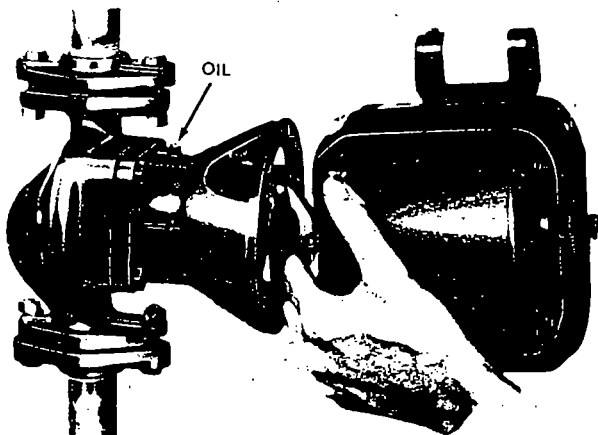
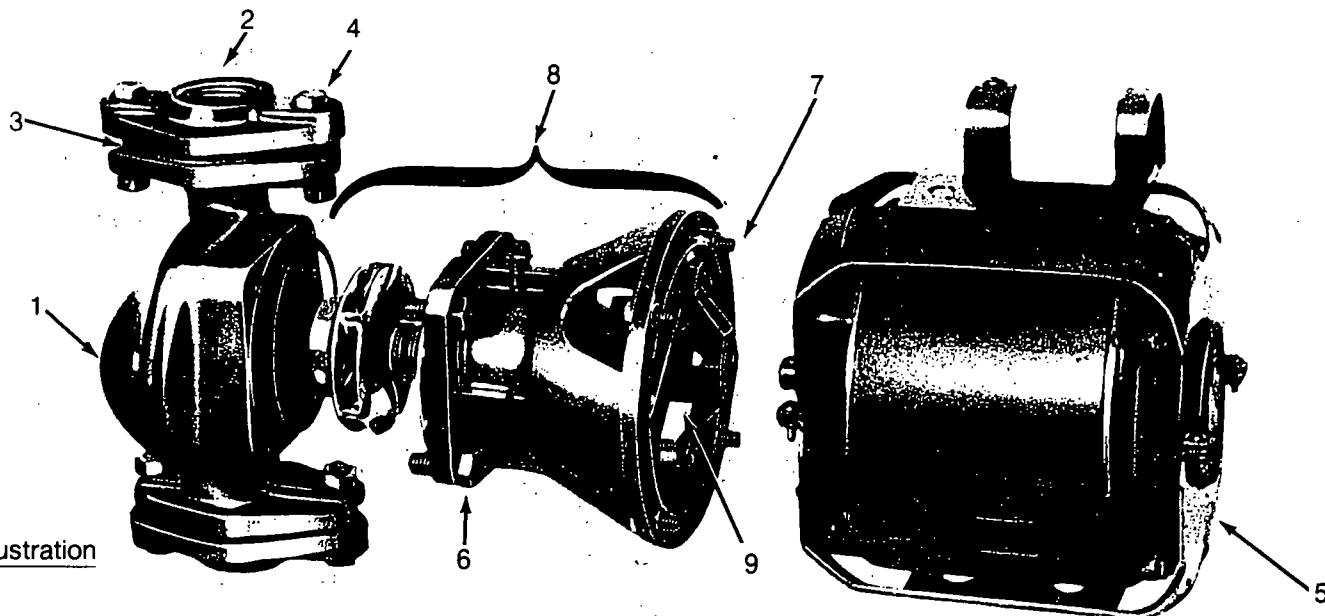

Figure 4 — Coupler Replacement & Lubricating
Figure 5 — Replacement Parts Illustration
1. Before operation, lubricate pump bearing (located on impeller assembly, Figure 5, Ref. No. 8) with oil tube provided. Slowly add oil (approximately 1/2 ounce on all models except 2P436, 3P612, 3P701 and 3P702. To these add 3/4 ounces, see Maintenance). Stop if cup fills before specified amount is added (see Figure 4).
A start of each heating season and/or every 6 months, lubricate oil cup located on impeller assembly (Figure 5, Ref. No. 8) with nondetergent (regular) SAE-30 motor oil as described below:
impeller assembly (Figure 5, Ref. No. 8). Stop if cup fills before specified amount is added (see Figure 4).
4. Remove bearing/impeller assembly from pump body, with coupler and impeller attached, by removing body capscrews. See Figure 5 or 6.
- Add complete contents of oil bottle supplied to the oil cup on bearing/impeller assembly. See Figure 4.